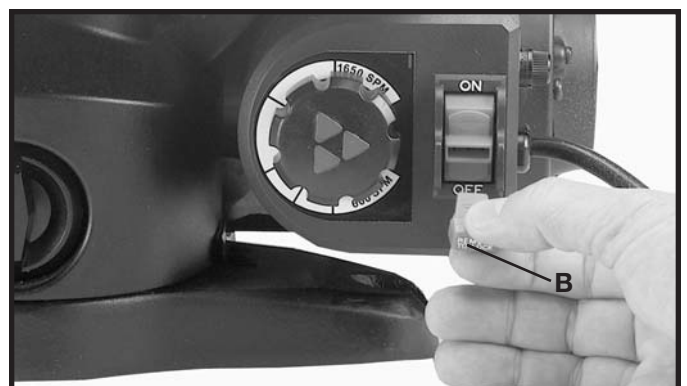

Fig. 6
**IMPORTANT:** When the machine is not in use, the switch should be locked in the OFF position to prevent unauthorized use. This can be done by grasping the switch toggle (B) and pulling it out of the switch, as shown in Fig. 6. With the switch toggle (B) removed, the switch will not operate. However, should the switch toggle be removed while the saw is running, the switch can be turned **"OFF"** once, but cannot be restarted without inserting the switch toggle (B).